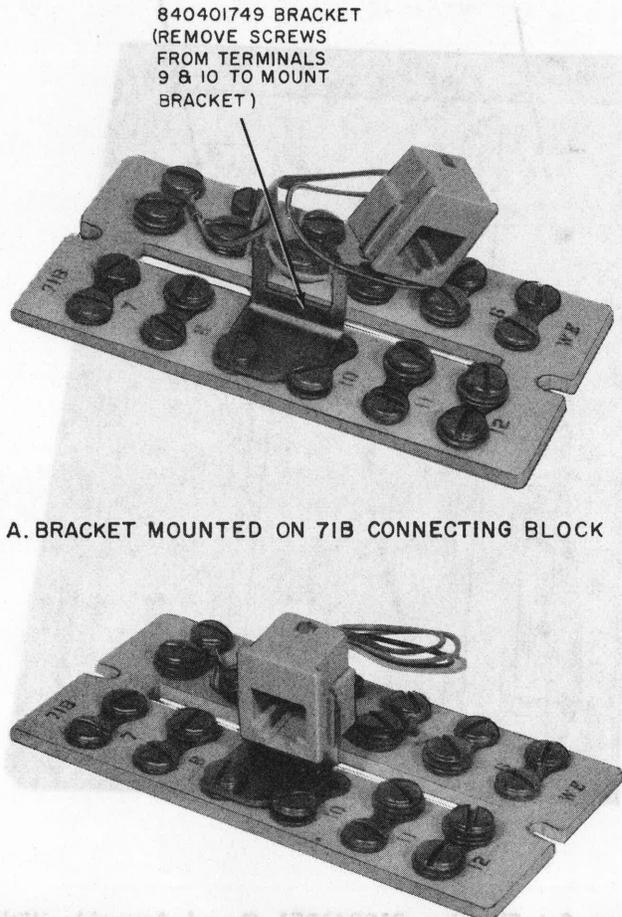
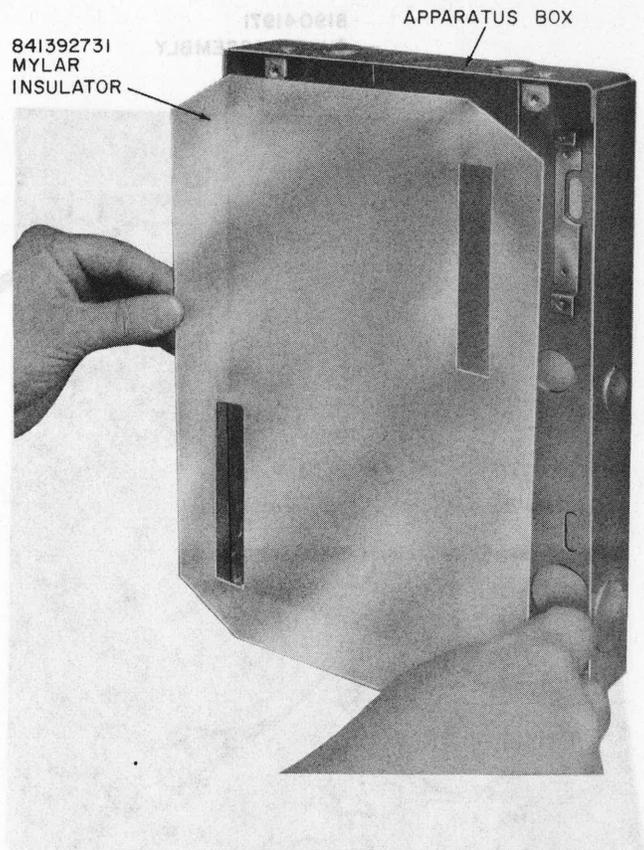

Fig. 2—71B Connecting Block with 652A4 Jack Attached
Fig. 3—Placing Mylar Insulator in Apparatus Box
- 819042326 (P-90D232) Cord and Plug Assembly [2750A (MD) or 2750B (MD)]
- Cord, D4BU-29 [2-foot provided for 2750AM/BM (MD) or 2750AMG/BMG telephone sets]
- Jack, 652A4 and 840401749, bracket [for 2750AM/BM (MD) or 2750AMG/BMG telephone sets], Fig. 2
- 841392731 Insulator (for insulating network from apparatus box), Fig. 3
- (1) Remove cover of apparatus box, if so equipped (see section covering apparatus boxes).
- (2) Place the 841392731 Mylar insulator (provided with the set) in the apparatus box, (Fig. 3). This provides insulation between the network terminals and the apparatus box.
- (3) Install 71B connecting block (ordered separately) to mounting bracket located in upper right corner of apparatus box. (Refer to Division 461 for further information on this type of connecting block.)
- (4) Secure mounting cord stayhook and terminate inside wire or cable and mounting cord in accordance with appropriate connection section.
Note: For 2750AM (MD), 2750BM (MD), 2750AMG, or 2750BMG telephone sets, attach 652A4 jack to clip provided and fasten to 71B connecting block by placing clip under screw terminal 10 (Fig. 2). Terminate leads of 652A4 jack to appropriate terminals of 71B connecting block and connect 652A4 to 623P4 jack using D4BU-29 cord.
- (5) Remove plastic mat retainer frame and mat from telephone set.
- (6) Position panel on lower edge of apparatus box with top tilted outward. Connect mounting cord plug to connector on set panel. Dress mounting cord to avoid interference with telephone set components. Align panel of set with mounting brackets on box and secure with four mounting screws furnished with set.
- (7) Position mat on panel and secure using the mat retainer frame. If necessary, the projecting tabs may be adjusted to insure a snug fit.